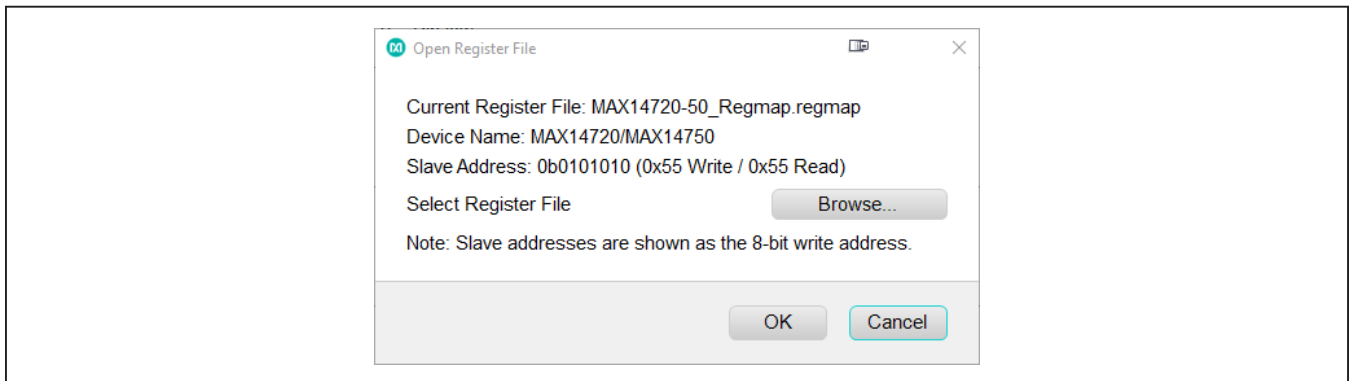

Figure 3. Click OK to Load the Register Map
- 12) Once the Regmap has been loaded, the device name and slave address appear on the window (See Figure 3).